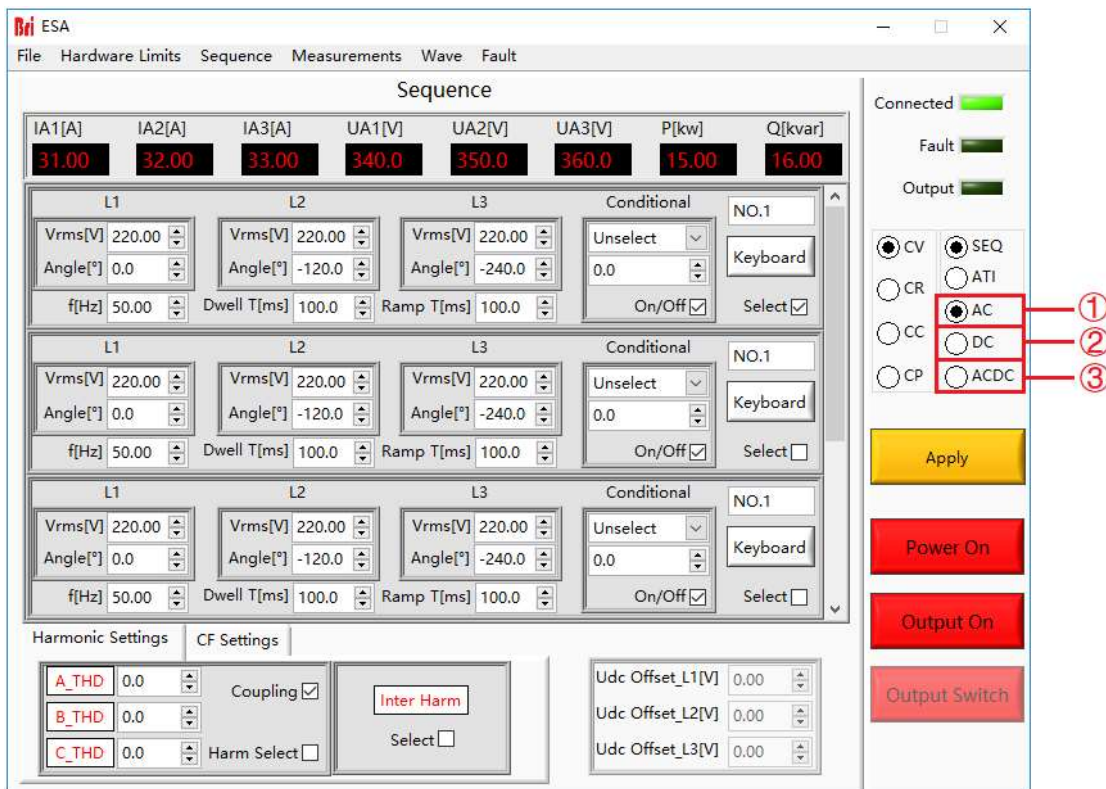
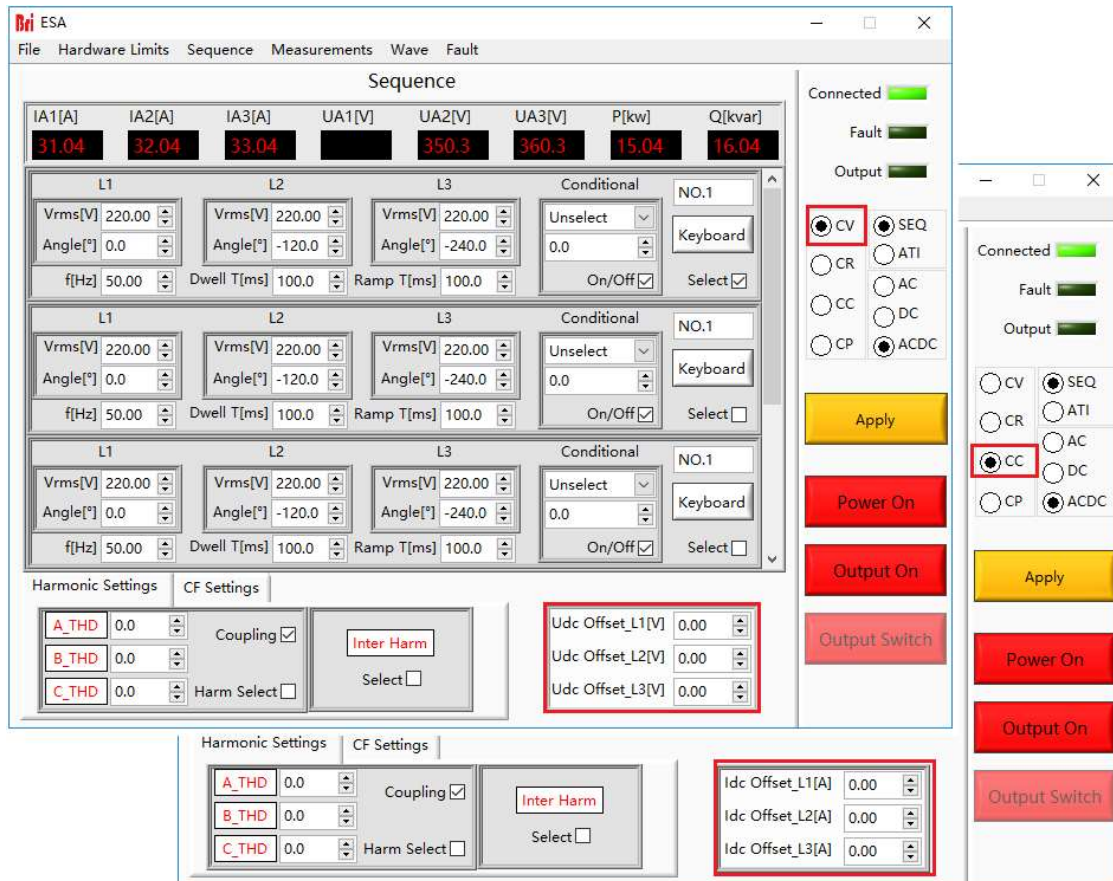

Figure 5-13 Output mode
Figure 5-14 DC offset voltage/Current
Click "Sequence Mode" to enter the panel, select AC output mode (AC) on the right side of the panel (Figure 5-13①), the user can select different operating modes (CV/CC/CP) according to the test requirements, and set the AC voltage/current/power. After setting the parameters, click "Apply"→"Power On"→"Output On", the power supply is on and output.
Click "Sequence" to enter the panel, select AC+DC output mode (AC+DC) on the right side (Figure 5-13③), the user can choose different operating modes (CV/CC) according to the test requirements, and set the AC voltage/current and DC offset voltage/current (Figure 5-14). After setting the parameters, click "Apply" → "Power On" → "Output On" in turn, and the power supply is on.
Click "Sequence Mode" to enter panel, select the DC output mode (DC) on the right side(Figure 5-13②), the user can select different operating modes (CV/CC/CP) according to the test requirements, and set the DC voltage/Current. When the parameter setting is completed, click "Apply"→"Power On"→"Output On", the power supply is on and outputs DC voltage/current/Power.